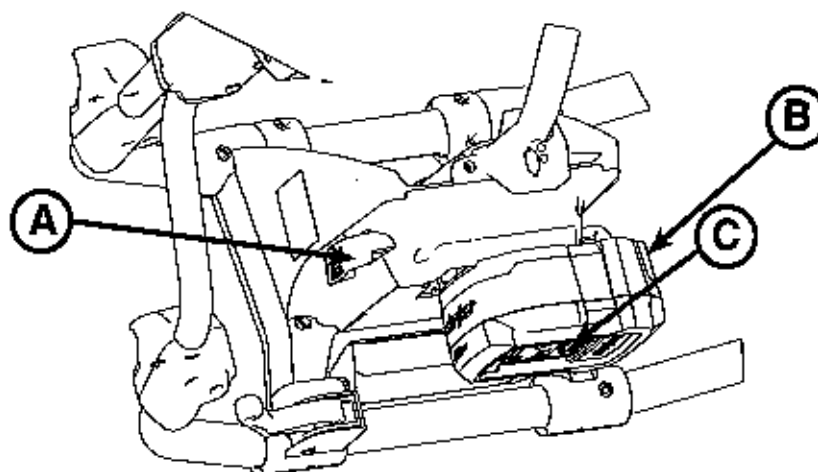

Figure 78
1. Press the red one hand release button (C) or press the battery release button (A) to release the SMRT™ Pak (B) from the cot as shown in Figure 78.